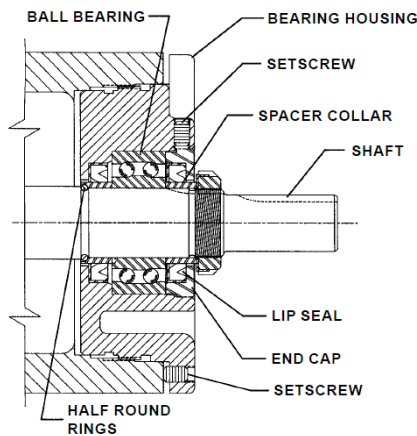

FIGURE 10
4. Loosen two setscrews in the face of the bearing housing and remove the bearing housing assembly from the bracket. Refer to Figure 10.